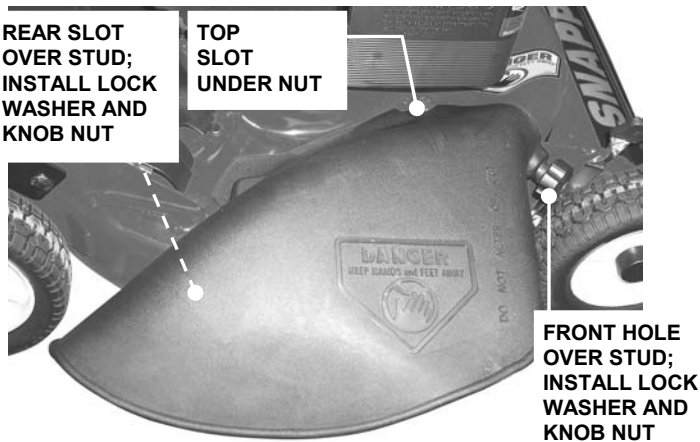

FIGURE 2.12
STEP 2: Install deflector to deck in place of recycling cover, making sure that: 1) front hole on outside front of deflector fits over stud where front of recycling cover was originally secured, 2) slot on top of deflector slips under restraining nut on top of deck (under right front corner of engine), and 3) slot on inside rear of deflector slips onto stud behind rear of discharge opening, where rear of recycling cover was originally secured. Install internal/external tooth lock washers and knob nuts onto studs and tighten securely. See Figure 2.12.